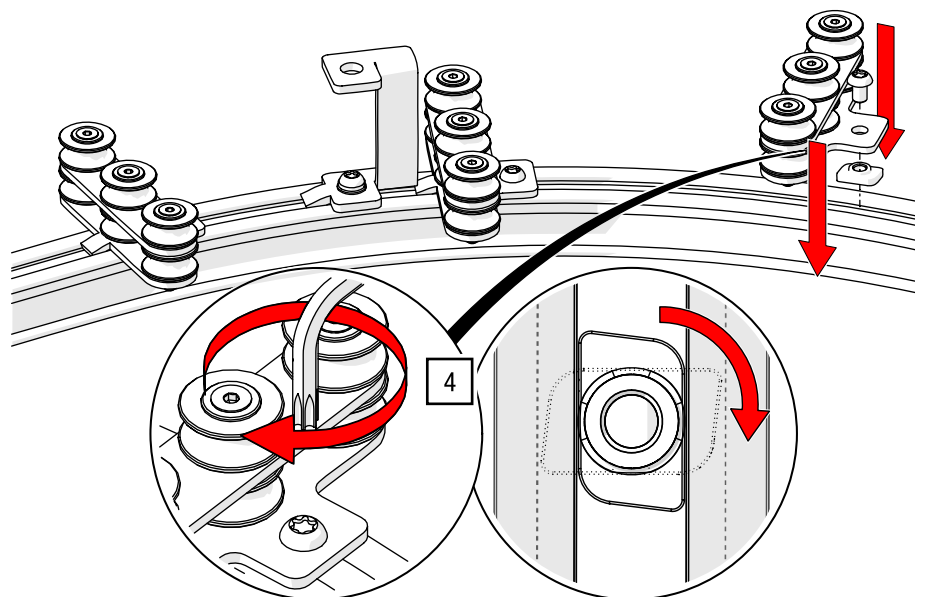

Fig. 107: Double top cord operation – Installing the cord guide for curves
4. Position one of the supplied cord guides for curved sections in each of the curves close to the suspension, distribute the rest at the track curve (positioning of the double pulley in opposite to the cord clamp on the master runner) and tighten the screw with a TORX®-key T40 and 27 Nm (see Fig. 107).